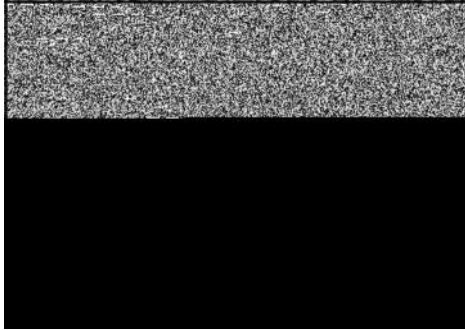

Figure 39
3. Place new gasket (A, Figure 39), spacer, and new o-ring between control bracket (B) and carburetor (C).